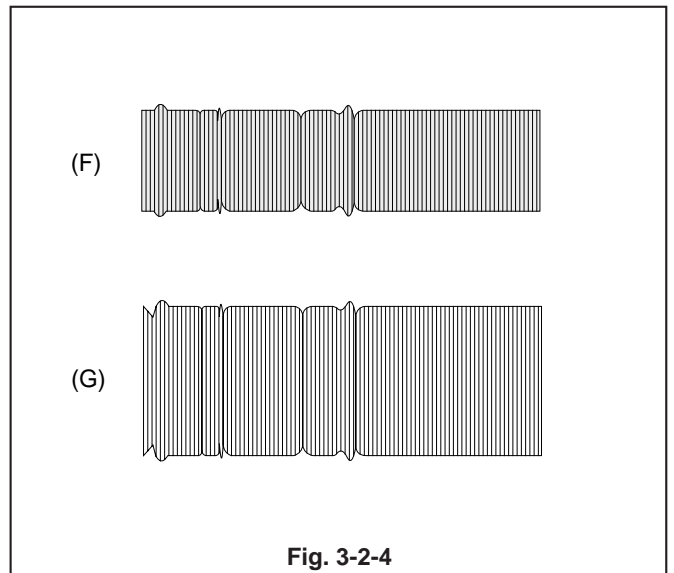

Fig. 3-2-4
4. If the amplitude level of the FM waveform is low as shown by Waveform (F) in Fig. 3-2-4, set it to maximum as shown by Waveform (G) using the following procedure. Loosen the screws D and E. Insert a Phillips screwdriver into the hole in the MAIN PLATE ASSY (Part A) and move the A/C PLATE from side to side to set the amplitude level to maximum.